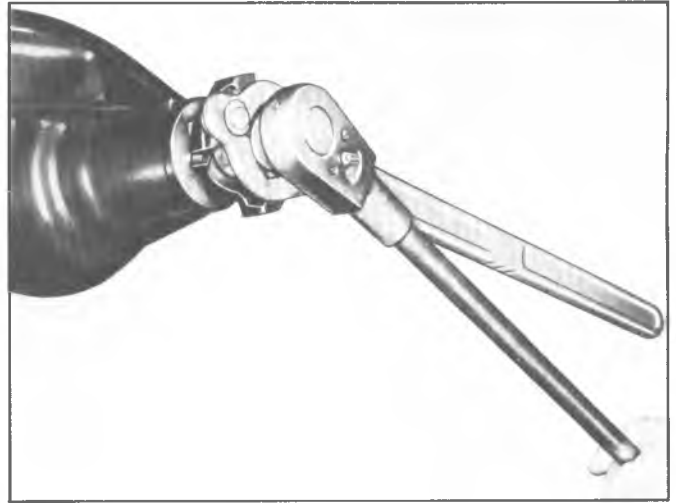

Fig. 12B—Drive Pinion Nut Removal
3. Install Holder J-8614-11 on flange by using two bolts with flat washers, as shown in figure 12B. Position J-8614-11 on flange so that the four notches are toward the flange.